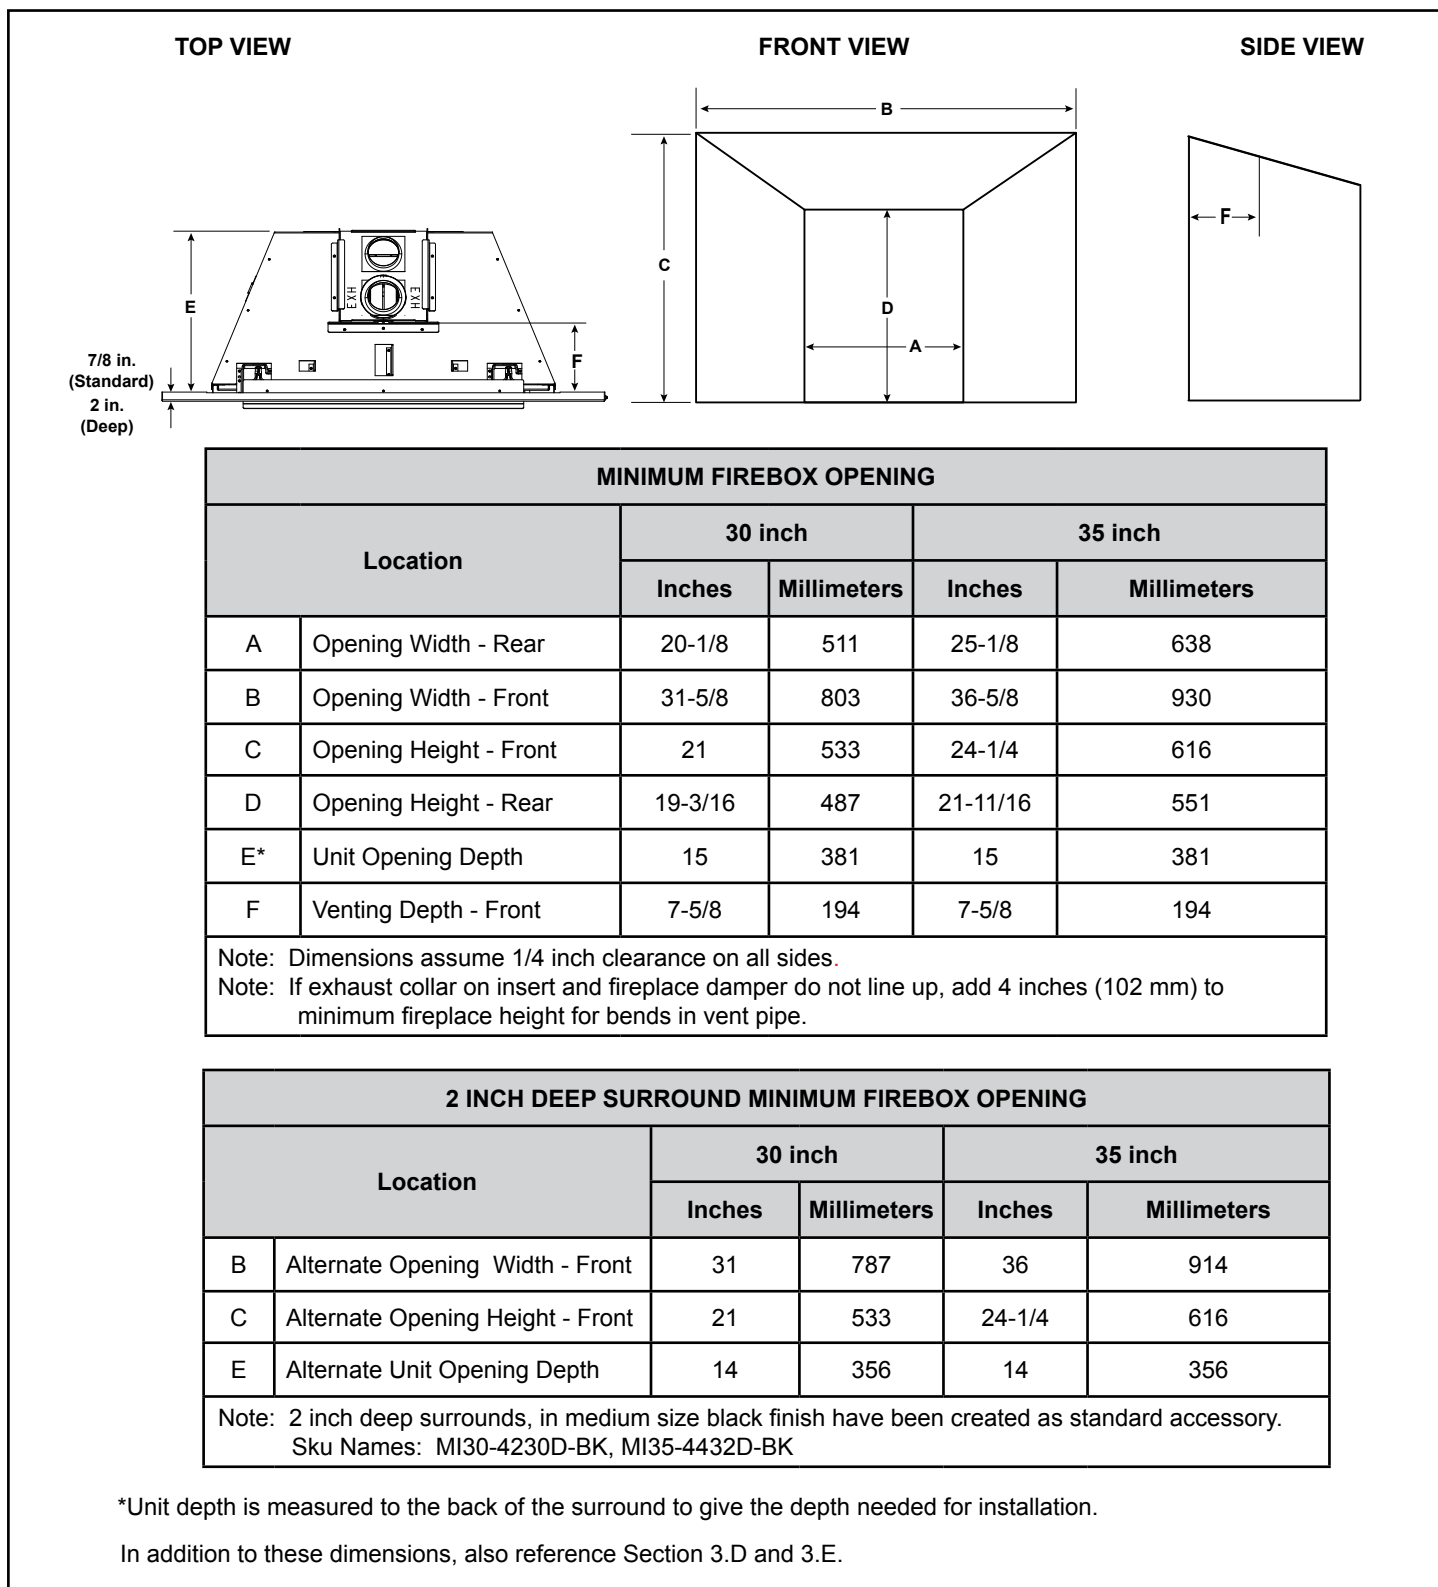

Figure 3.7 Firebox Opening - Standard Surround - 3/4 in.
***Note:** Location G is the appliance depth measurement, for installation depth reference Location E on Figure 3.7.